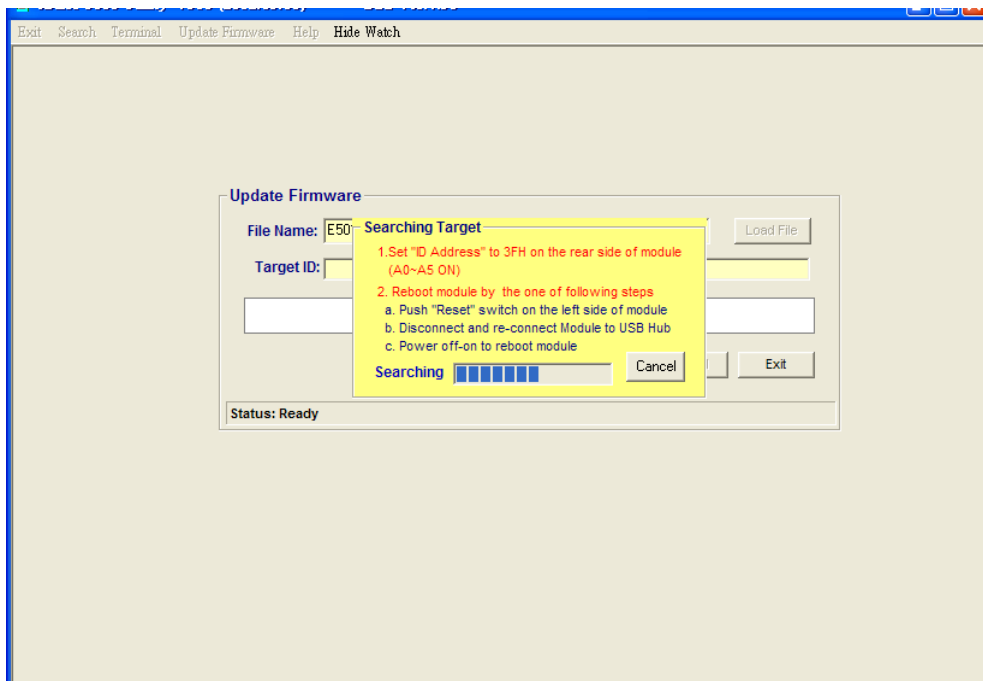

Figure -8
8. The Utility is searching module. Power-off /on the module or press "Reset button" at the down side of the module to **reboot** the module. (see Figure -8)